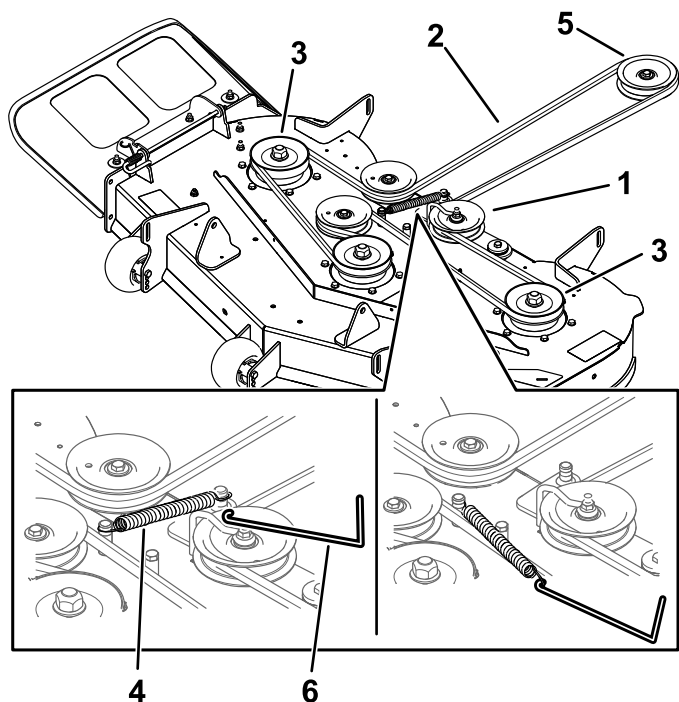

Figure 62
- Using a spring-removal tool (Toro Part No. 92-5771), remove the idler spring from the deck hook to remove tension on the idler pulley and roll the belt off the pulleys (Figure 62).
- Route the new belt around the engine pulley and mower pulleys (Figure 62).
- Using a spring-removal tool (Toro Part No. 92-5771), install the idler spring over the deck hook and place tension on the idler pulley and the mower belt (Figure 62).